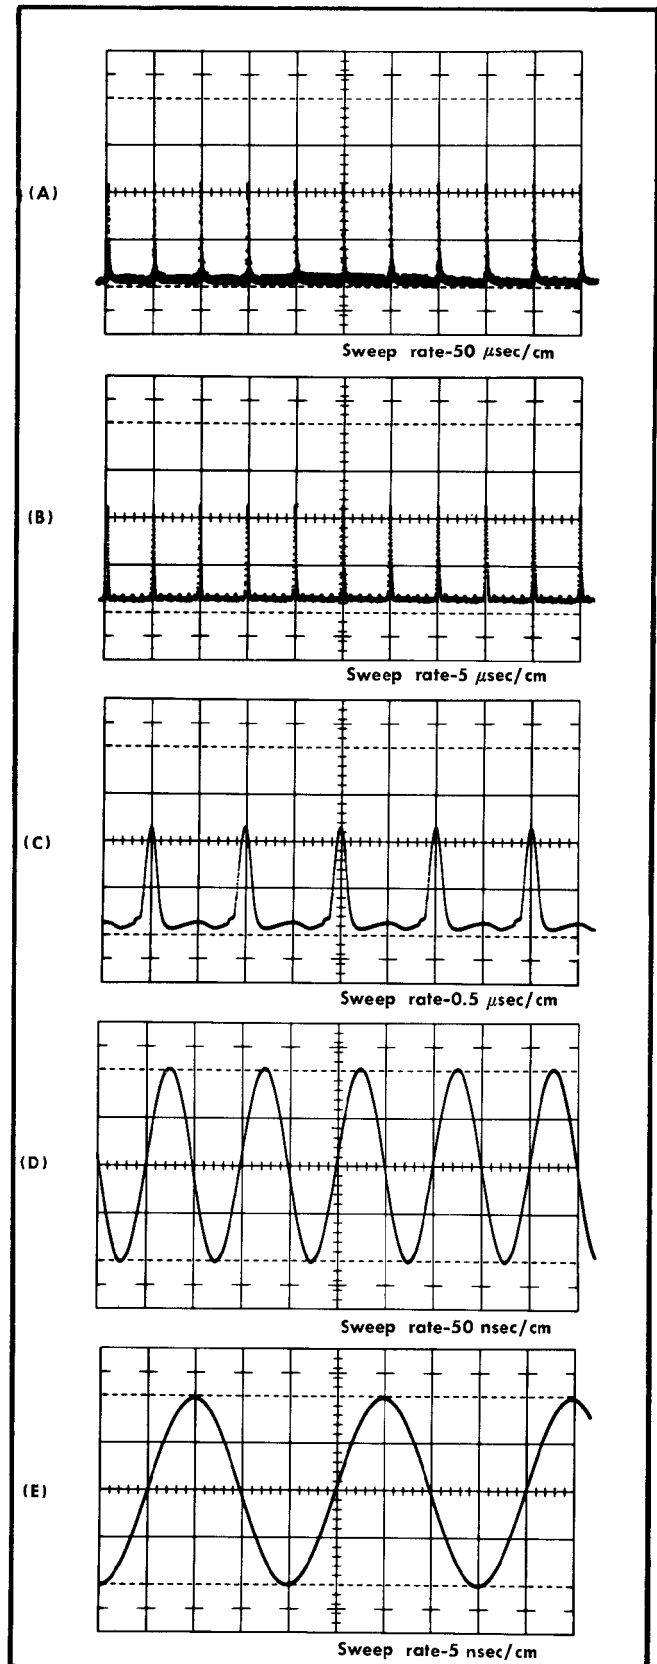

Fig. 5-56. Typical indicator oscilloscope displays for checking fast-ramp timing.
o. Check timing on each time position range as indicated in the table and in Fig. 5-56. Timing over the center 8 cm should be within 1% on each range.